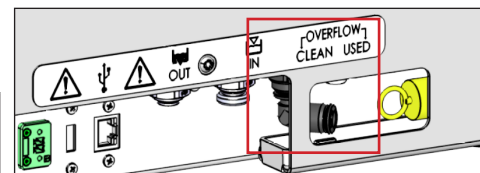

fig.3
**!** If you fill in too much water (even after the acoustic signal), the excess water will be discharged through the 'OVERFLOW CLEAN' connection located at the rear of the device (see Fig. 3).